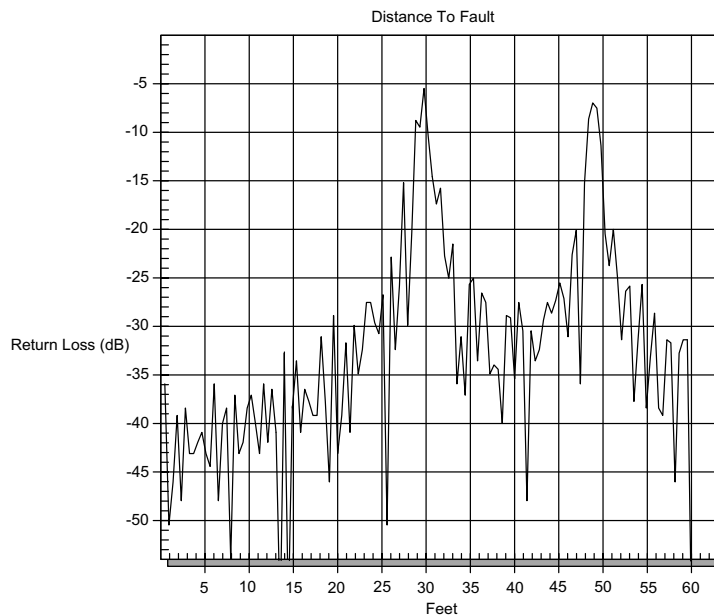

Figure 3-9. Rectangular Windowing Example
*In situations where there may be a small discontinuity close to a large one, side lobe reduction Windowing should be used. When distance resolution is critical Windowing can be reduced. The types of Windowing in order of increasing side lobe reduction are: rectangular, nominal side lobe, low side lobe, minimum side lobe. Figures 3-9 thru 3-12, on pages 3-12 and 3-13, are examples of the types of Windowing.*